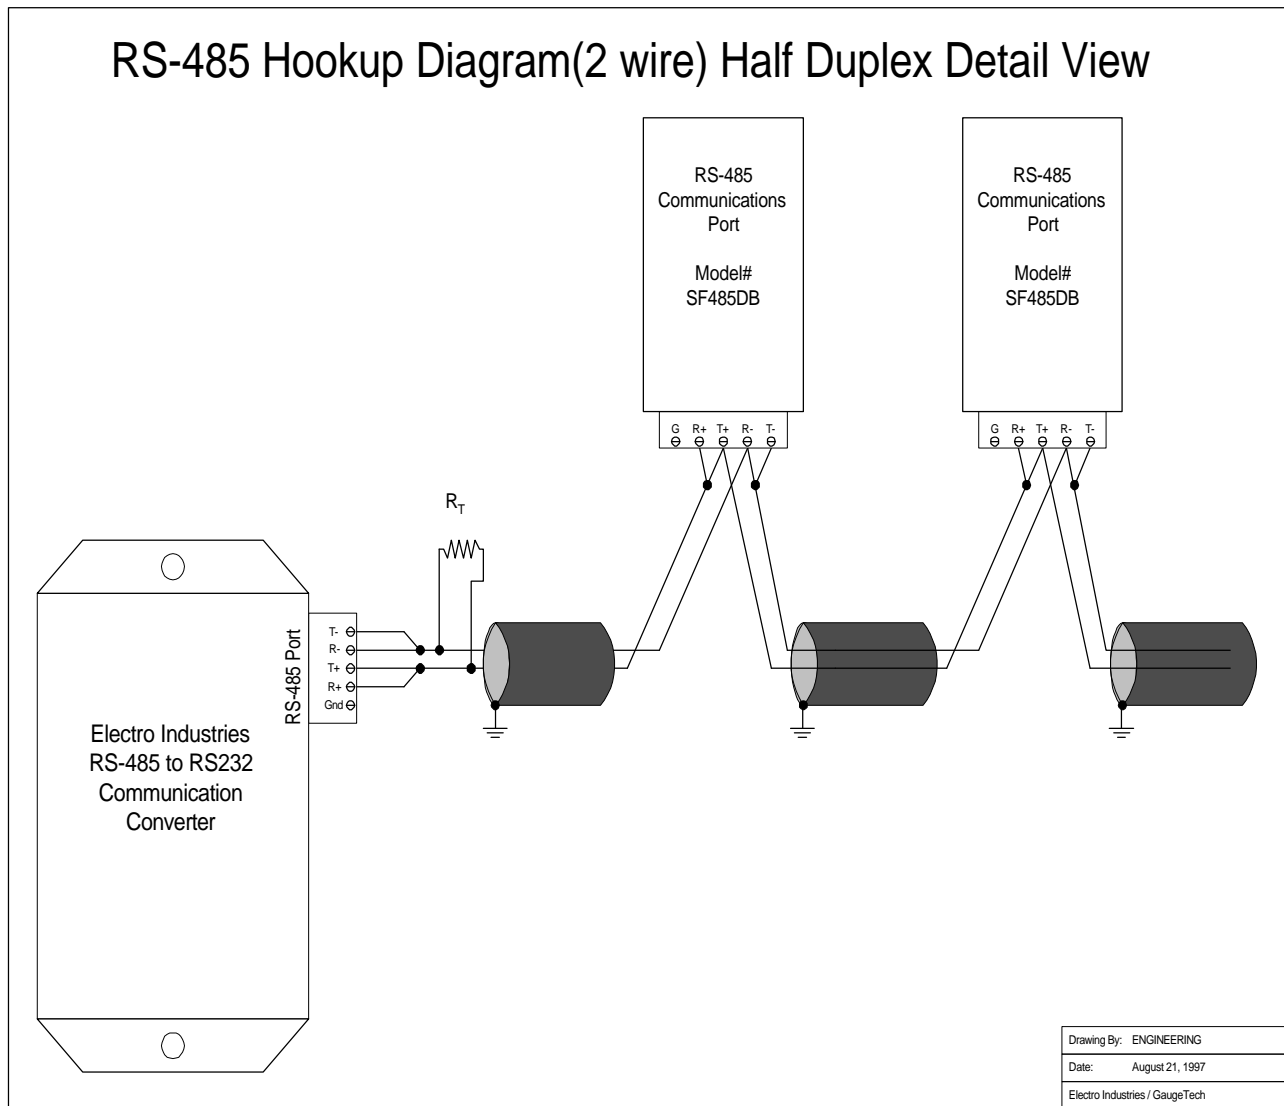

Figure 3.4 2-Wire RS-485 Communication Connection Installation Half Duplex Detail View
- In a two-wire connection, a maximum of 900 instruments can be included in the same network, (Figure 3.4).